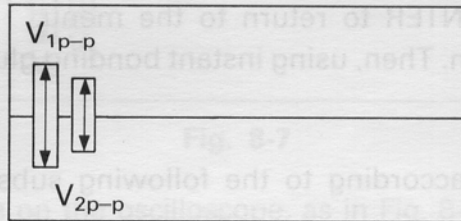

Fig. 8-5. Cat's Eye
- After moving the head to track 20 where a digital cat's eye is recorded, turn the stepping motor for the head feed by hand so that two outputs just after the index are almost equal to each other ($V_{1p-p} = V_{2p-p}$), as shown in Fig. 8-5.
- Press the 4 key to select the Head Radial test; then set channel 2 of the scope to 100 mv/div. The waveform appears on the oscilloscope as in Fig. 8-5. Check to see if the ratio of V_{2p-p} to V_{1p-p} is within the range from 0.925 to 1.075. If not, turn the stepping motor little by little by hand so that the V_{1p-p} is almost equal to the V_{2p-p} . Press the up arrow key for an elastic step in, the down arrow key for an elastic step out and check the ratio of the signal again. An elastic step moves the head to the innermost or outermost track, then moves it back to its original position. Repeat this procedure until the correct ratio is produced. Press the ESC key to return to the menu; then press the 6 key to select the track-0 adjust test.